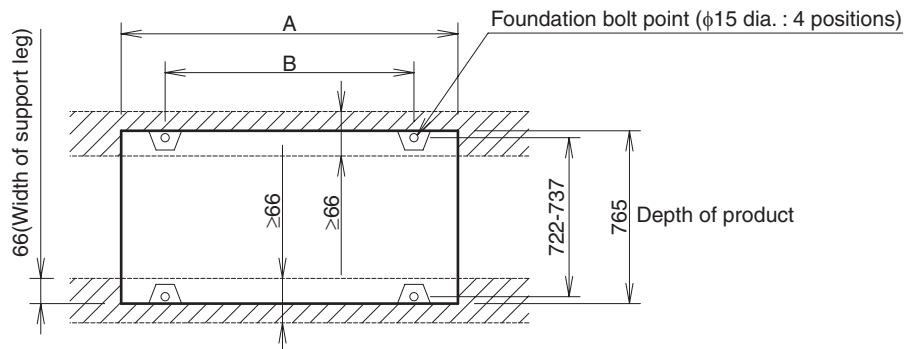

figure 8
- The base should be bigger around than the width of the unit's legs (66 mm), and should support the unit. (Refer to figure 8)